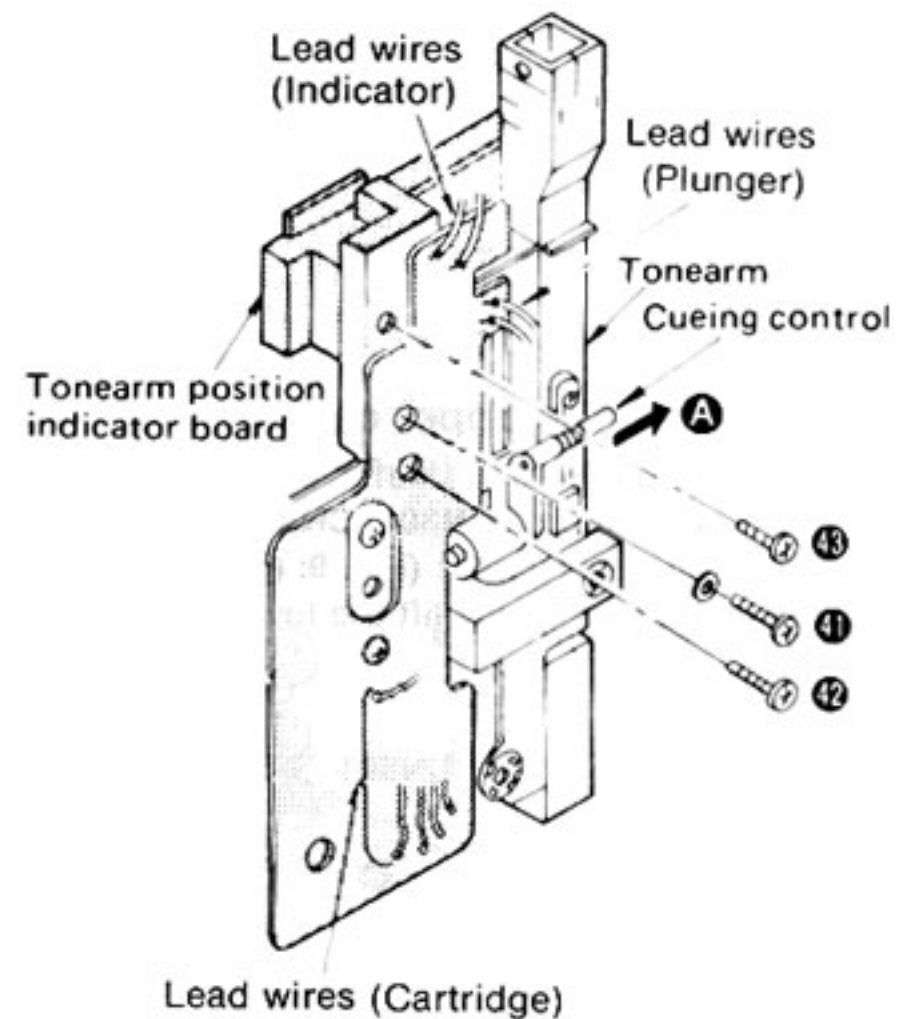

Fig. 11
2. Unsolder the 2 lead wires from the cueing plunger (Fig. 11)
3. Remove the 2 cueing control ass'y setscrews (Fig. 11: 41, 42), and the cueing control ass'y can be removed in the direction of the arrow A.
2. Unsolder the 2 lead wires from the indicator (Fig. 11)
3. Remove the tonearm position indicator board setscrew (Fig. 11: 43).